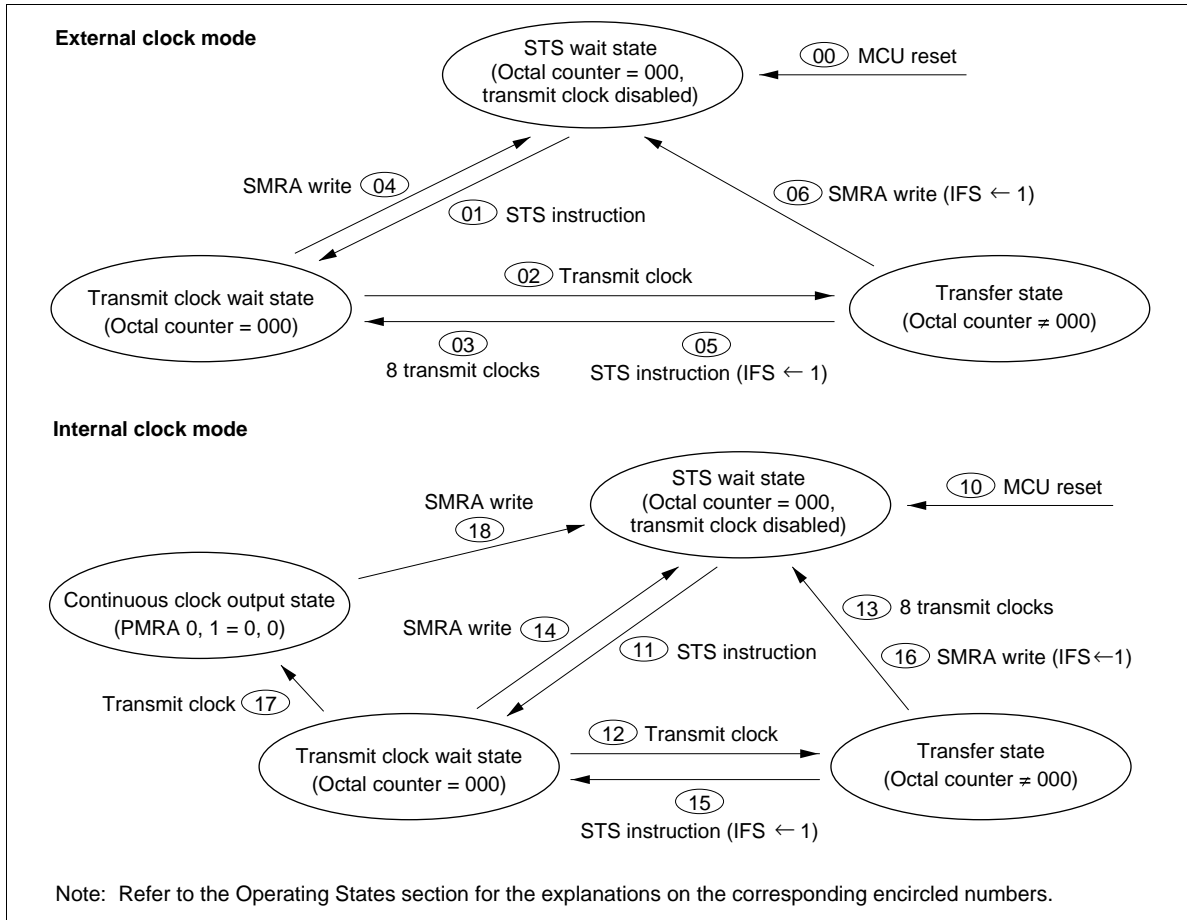

Figure 68 Serial Interface State Transitions
Operating States: The serial interface has the following operating states, which allow transitions to occur between them (figure 68).
- STS wait state: The serial interface enters STS wait state by MCU reset (00 and 10 in figure 68). In STS wait state, the serial interface is initialized and the transmit clock is ignored. If the STS instruction is then executed (01 and 11), the serial interface enters transmit clock wait state.
- **Transmit clock wait state:** Transmit clock wait state is the period between the STS execution and the falling edge of the first transmit clock. In transmit clock wait state, input of the transmit clock (02 and 12) increments the octal counter, shifts the serial data register (SRL: \$006, SRU: \$007), and enters the serial interface in transfer state. However, note that if continuous clock output state is selected in internal clock mode, the serial interface does not enter transfer state but enters continuous clock output state (17).